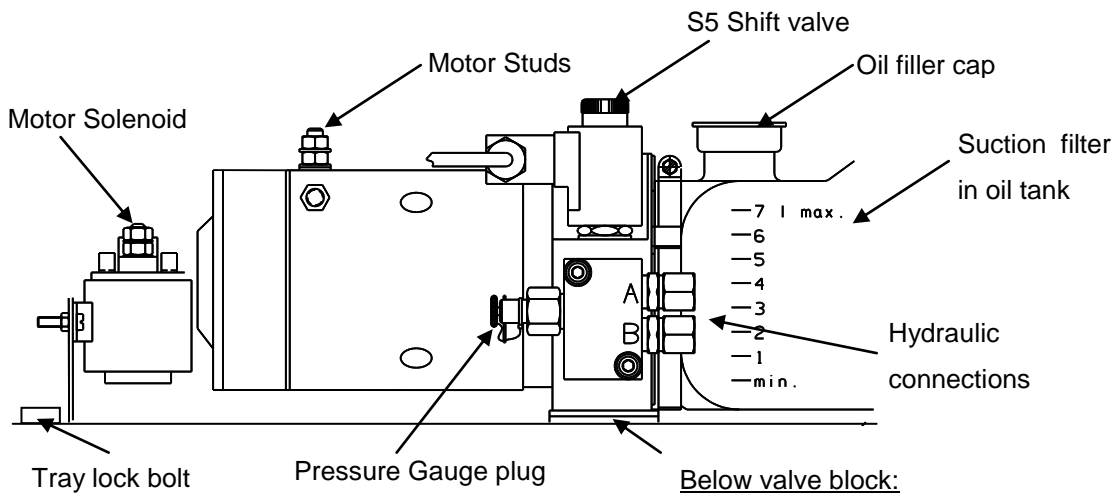

Fig. 23
2. Pull the power pack out till you can reach the oil filler cap, **Fig. 23**.